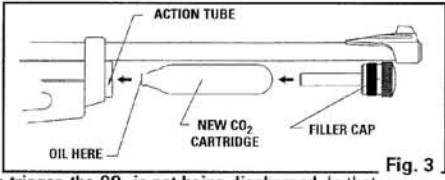

Fig. 3
- Put a drop of CROSMAN 0241 PELLGUNOIL® lubricating oil directly on the tip of a new CO₂ cartridge before inserting and on the O-ring located on the bolt (See Fig. 3 & 4). **DO NOT** use a petroleum distillate based oil or solvent and **DO NOT** over-oil as this can cause damage to your airgun. External metal surfaces should be wiped with a lightly oiled cloth after each use.
- Insert the new CO₂ cartridge into the action tube with the small neck of the CO₂ cartridge into the action tube first (Fig. 3).